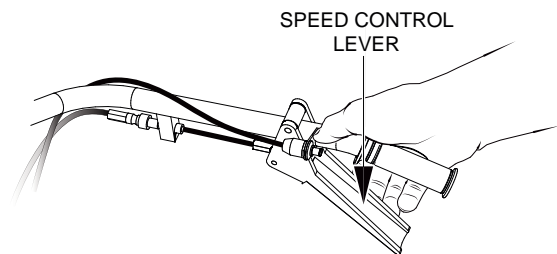

Figure 20. Speed Control Lever
- Check the speed control lever (Figure 20) located on the right side of the handle bar. The speed control should work freely when squeezed by hand, and return to the **neutral** position when released.
5. Slowly squeeze the speed control lever slightly (Figure 20), for a short period of time to test the brake holding capacity. If the buggy moves forward, adjust the brakes as outlined in the maintenance section of this manual.
2. Squeeze the speed control lever (Figure 20) slightly until the buggy begins to move in a forward direction. Initially, let the buggy travel at about 3 MPH.